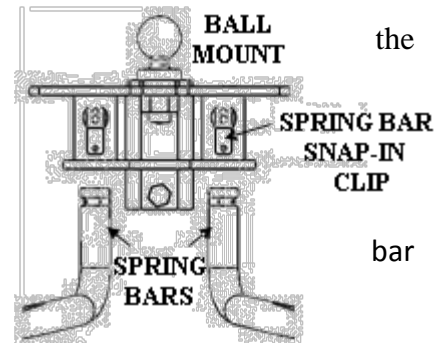

Figure 5
4. Attach Chains (4a) to Spring Bars (3) using U-Bolt (4b) allowing 2-3 threads to protrude below Flat Washers (4d) and Locknut (4c). Chain should hang free without any of the links binding.
7. Snap Spring Bars into the Spring Bar sockets from underneath Ball Mount (1). (See Figure 5). Place spring bar through socket and push up. The Spring Bar will lock in place. To make sure bar is locked into place, pull up on the other end of the bar and bar should remain in place. (Spring Bars can be removed by pulling out on the Spring Bar Snap-In Clip (8) or by rotating the under the bumper to drop out freely.